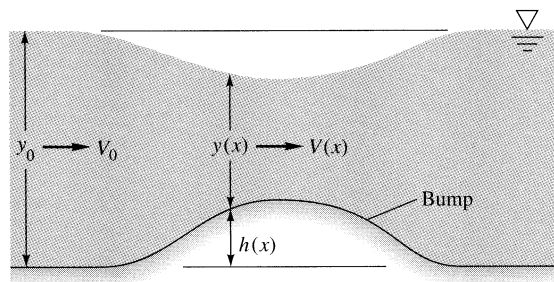

Fig. P10.62
**10.62** Consider the flow in a wide channel over a bump, as in Fig. P10.62. One can estimate the water-depth change or *transition* with frictionless flow. Use continuity and the Bernoulli equation to show that
Is the drawdown of the water surface realistic in Fig. P10.62? Explain under what conditions the surface might rise above its upstream position  $y_0$ .
**10.63** In Fig. P10.62, let  $V_0 = 1$  m/s and  $y_0 = 1$  m. If the maximum bump height is 15 cm, estimate (a) the Froude number over the top of the bump; and (b) the maximum depression in the water surface.
**10.64** In Fig. P10.62, let  $V_0 = 1$  m/s and  $y_0 = 1$  m. If the flow over the top of the bump is *exactly critical* ( $Fr = 1$ ), determine the bump height  $h_{\max}$ .
**10.65** Program and solve the differential equation of “frictionless flow over a bump,” from Prob. 10.62, for entrance conditions  $V_0 = 1$  m/s and  $y_0 = 1$  m. Let the bump have the convenient shape  $h = 0.5h_{\max}[1 - \cos(2\pi x/L)]$ , which simulates Fig. P10.62. Let  $L = 3$  m, and generate a numerical solution for  $y(x)$  in the bump region  $0 < x < L$ . If you have time for only one case, use  $h_{\max} = 15$  cm (Prob. 10.63), for which the maximum Froude number is 0.425. If more time is available, it is instructive to examine a complete family of surface profiles for  $h_{\max} \approx 1$  cm up to 35 cm (which is the solution of Prob. 10.64).
**10.66** In Fig. P10.62 let  $V_0 = 6$  m/s and  $y_0 = 1$  m. If the maximum bump height is 35 cm, estimate (a) the Froude number over the top of the bump; and (b) the maximum increase in the water-surface level.
**10.67** In Fig. P10.62 let  $V_0 = 5$  m/s and  $y_0 = 1$  m. If the flow over the top of the bump is exactly critical ( $Fr = 1$ ), determine the bump height  $h_{\max}$ .